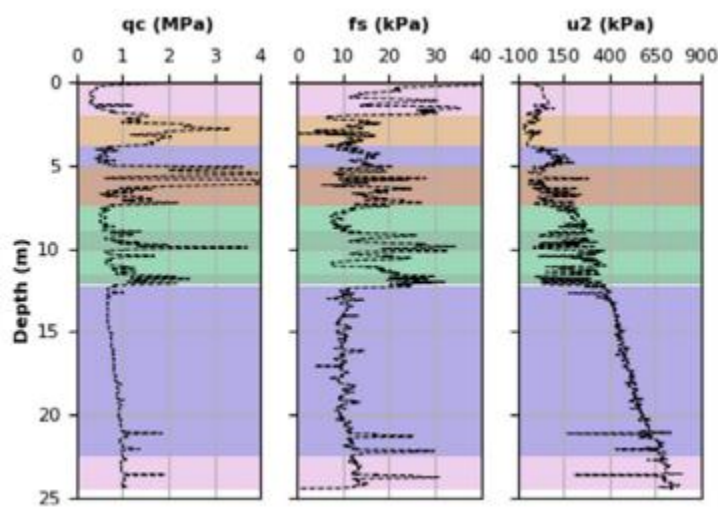
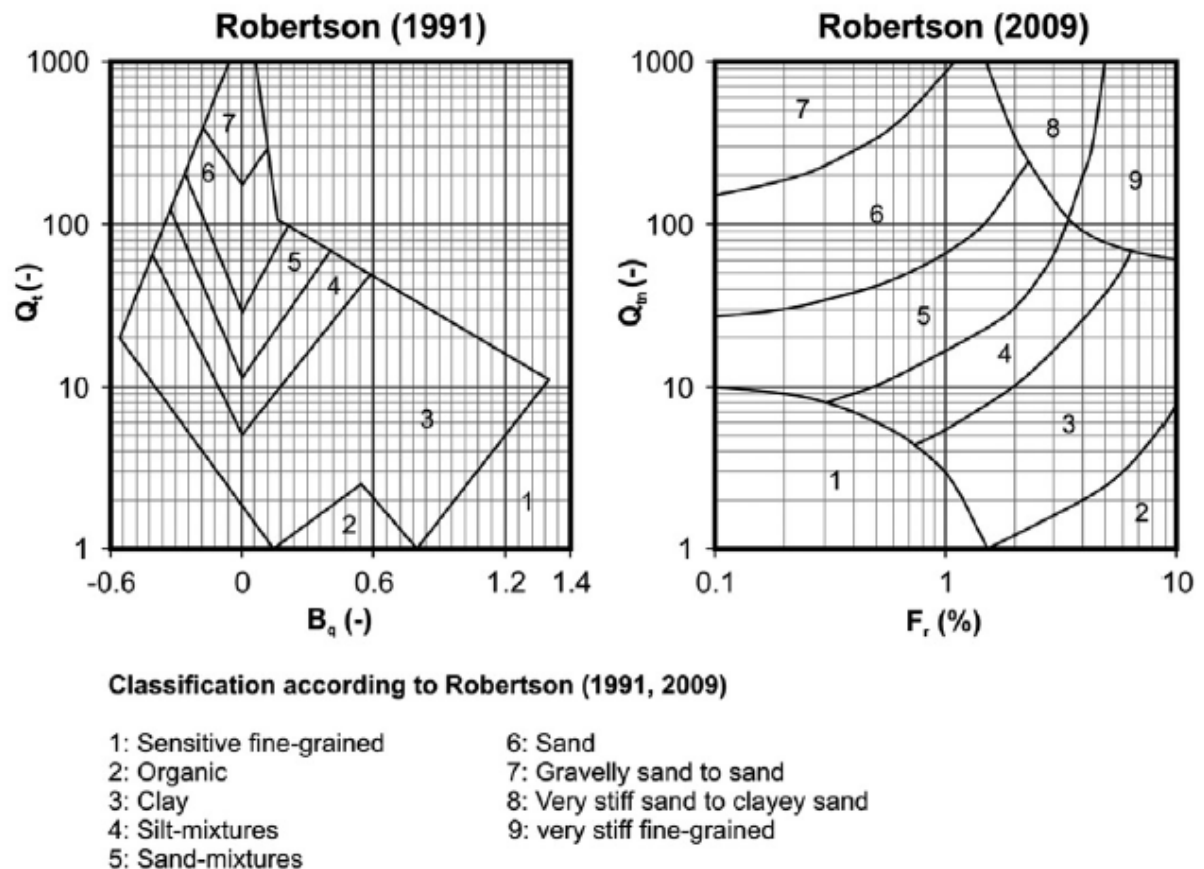

Figure 4. Outcome from drilling process. q_c , f_s , u_2 is used to map the soil type
Figure 5. Direct mapping from drilling data to soil type (after Robertson papers 1991, 2009).
- Using the CPT method we measure several parameters in the soil such as q_c , f_s , u_2 . Example values along the same drillhole is shown in Figure 4. Based on established correlations with these parameters we assign a soiltype to each layer along the drillhole, typically using a simple mapping given by Robertson (see Figure 5). We can then interpolate the values between drillholes and build a 2D profile or a 3D model of the ground based.